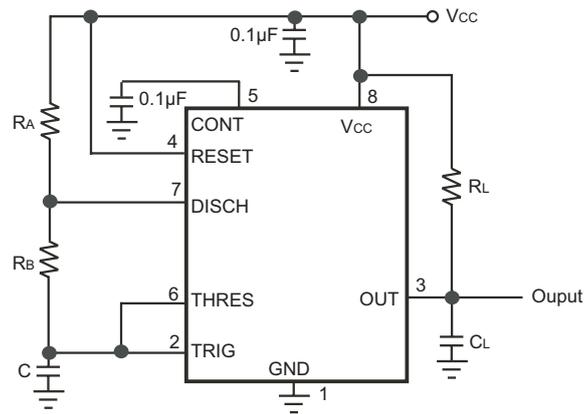

Figure 5. Circuit for Astable Operation
**Note 1:** RL, CL are defined in Figure 5.
As shown in Figure 5, adding a second resistor,  $R_B$ , connecting the TRIG input to the THRES input causes the timer to self-trigger and run as a multi-vibrator. The capacitor C charges through  $R_A$  and  $R_B$  and then discharges through  $R_B$  only. Therefore, the duty cycle is controlled by the values of  $R_A$  and  $R_B$ .